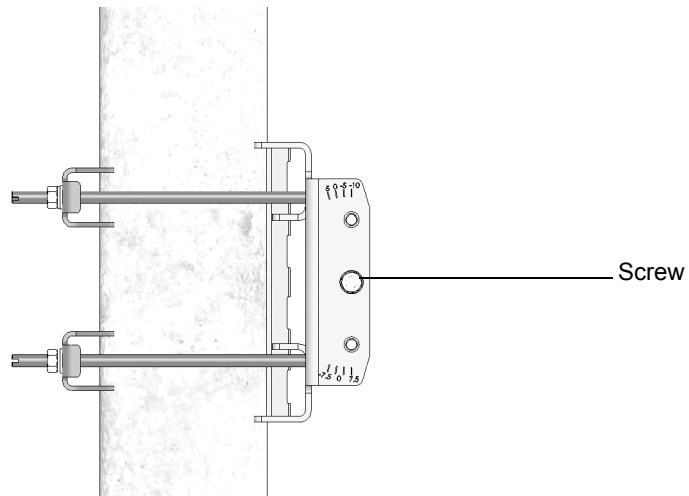

Figure 2-5: Installed Carriage - Side View
- 4 Thread screws through the middle-side holes of the carriage (Figure 2-5).